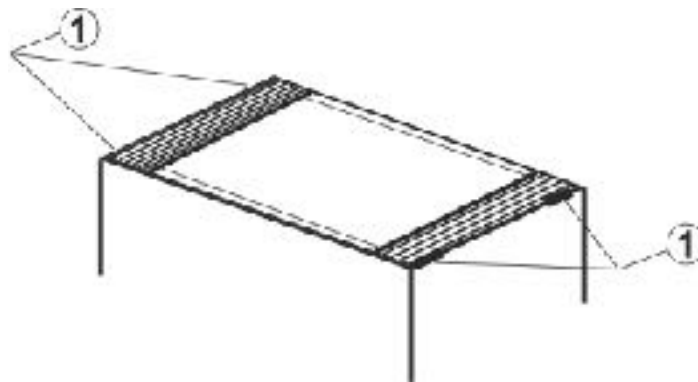

Fig. 5: Battery replacement
2. Remove the covers on the bottom side of the instrument using a screwdriver in the proper positions (1) and unscrew the 4 fixing screws (see Fig. 5).